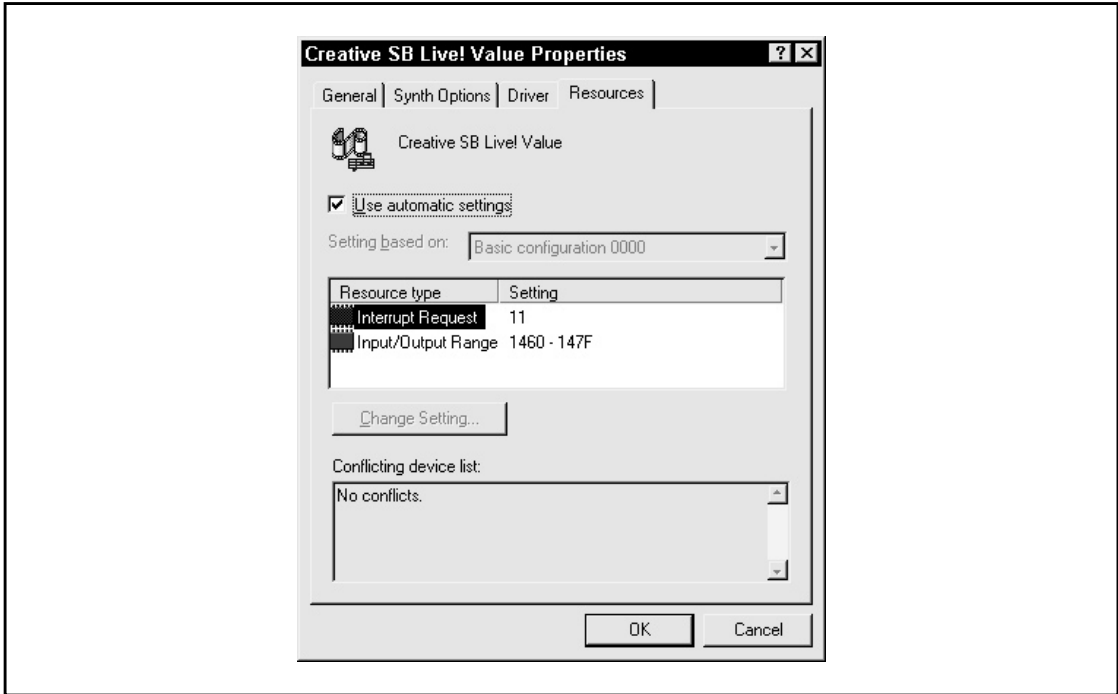

Figure 11-21. The system resources for an individual device are displayed on the Properties window for the device
To view the system resource assignments for an individual device: highlight the device in the installed device list (you may need to open a certain device type family by clicking on the "+" symbol by the name of the family); click the Properties button to display the device's properties; and click the View Resources tab. The display should be similar to that shown in Figure 11-21.
3. Open the Properties window and display the Resources tab information. At the bottom of the display (refer to Figure 11-21), there should be information regarding the conflicting device.